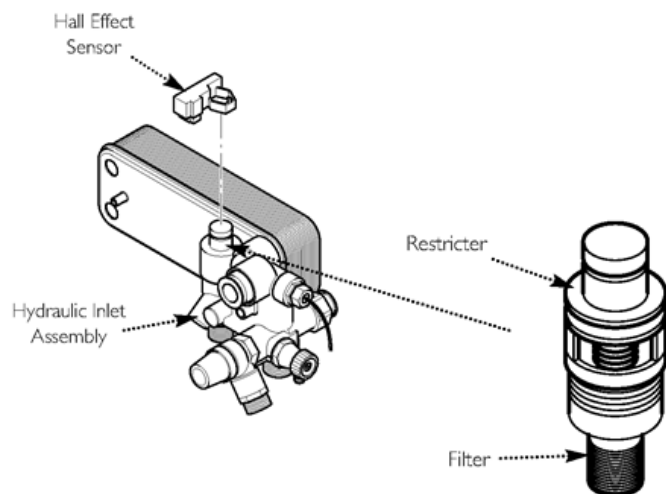

Fig. 53
17. Pull off the Hall Effect sensor. Undo the restrictor from the inlet/return manifold (Fig. 53).